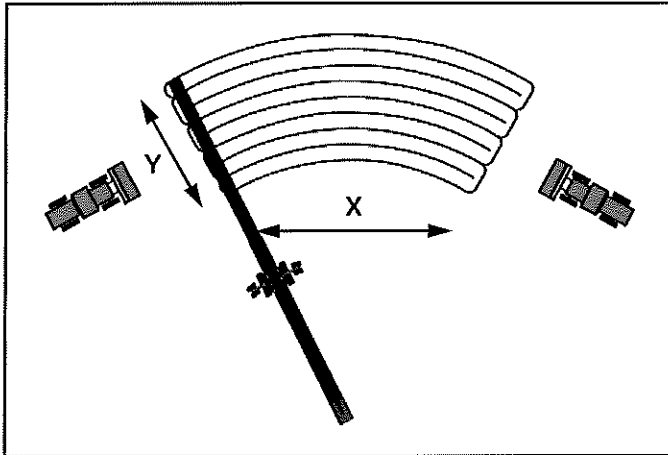

Figure 79
Once the parameters have been entered into the PLC and the conveyor is set to auto mode the conveyor program will build the pile continuously similar to the configuration shown (Figure 79) until the pile reaches the maximum height requirement.
- When the X dimension is greater than the Y dimension. The conveyor would be used more efficiently when covering material over a large area (Figure 79).
- When the loader needs to reclaim the material from each side of the pile for a better blend of material (Figure 79).